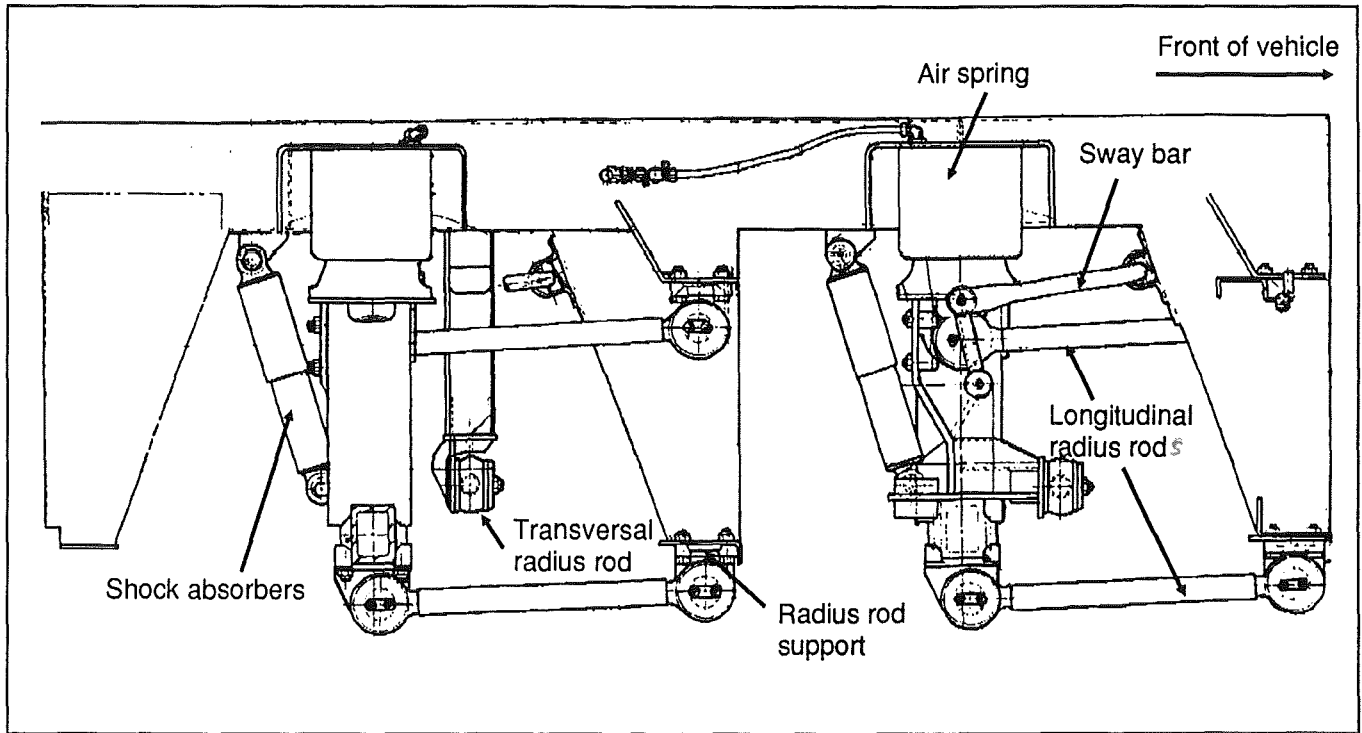

FIG. 2 - Front axle suspension components
Radius rods are used to secure the axles in the proper transverse and longitudinal position. Ten (10) radius rods are provided on the front axle suspension (five per axle: four longitudinal and one transversal), eight (8) on the drive axle suspension (four per axles: two longitudinal and two diagonal) and five on the rear axle suspension with a layout identical to the front axle. Refer to figure 2, 3 and 4 for details. These rods transmit both braking and driving forces from the axles to the vehicle body.